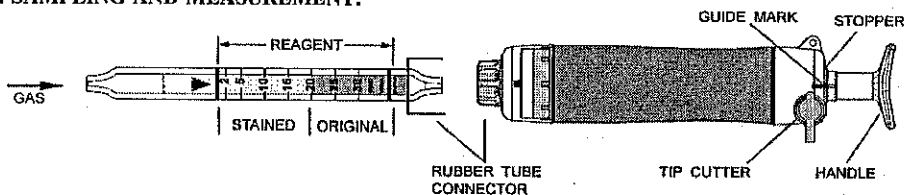

Fig.1
- ① Break both ends of the detector tube.
- ② Insert the detector tube into the aspirating pump securely as shown in Fig.1. (Arrow mark shall point to the pump.)
- ③ Align the guide marks on the shaft and stopper of the aspirating pump.
- ④ Pull the pump handle at a full stroke until it locks and wait for 1 minute or until the completion of sampling is confirmed with the flow indicator of the pump. (See descriptions about the flow indicator in the instruction manual of the pump.)
- ⑤ On completion of sampling, read the scale at the maximum point of the stained layer.
- ⑥ When the concentration is below the scale range, 2 pump strokes can be used to determine concentrations of 1 to 15 ppm. Then multiply the reading value by 0.5.